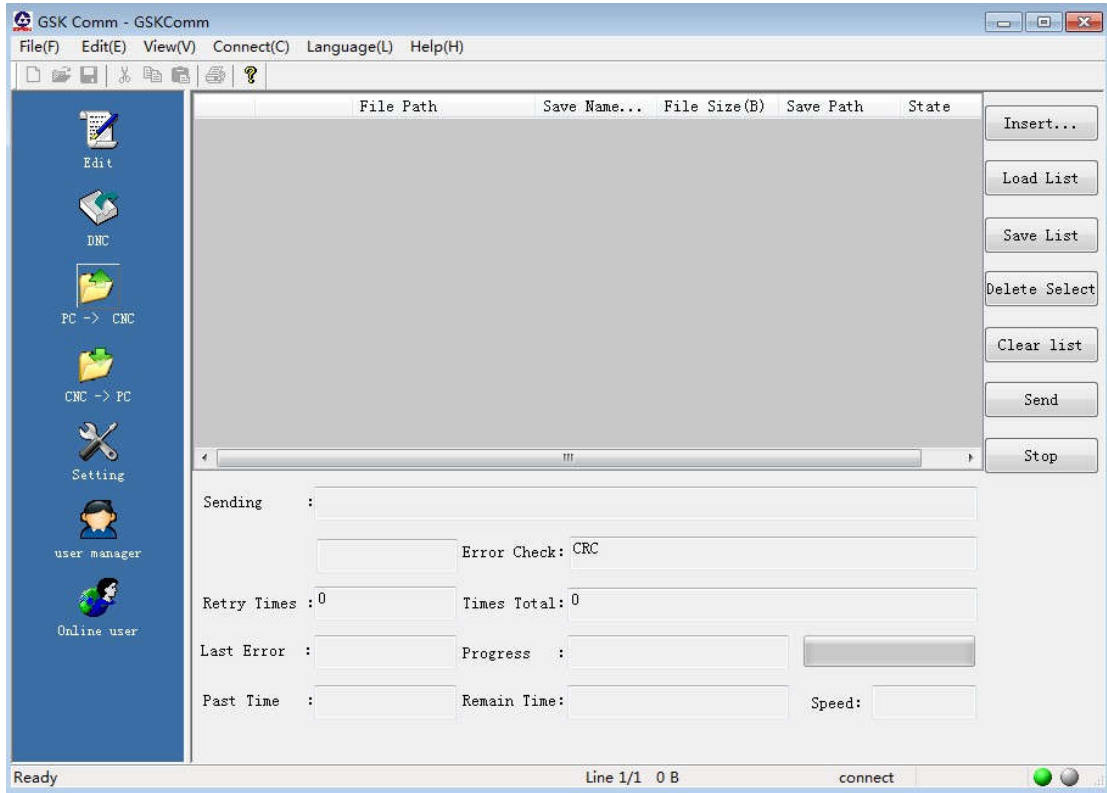

Fig. 11-2-2-5
3. Click  to add all files to be sent to CNC. As shown in the figure 11-2-2-6.